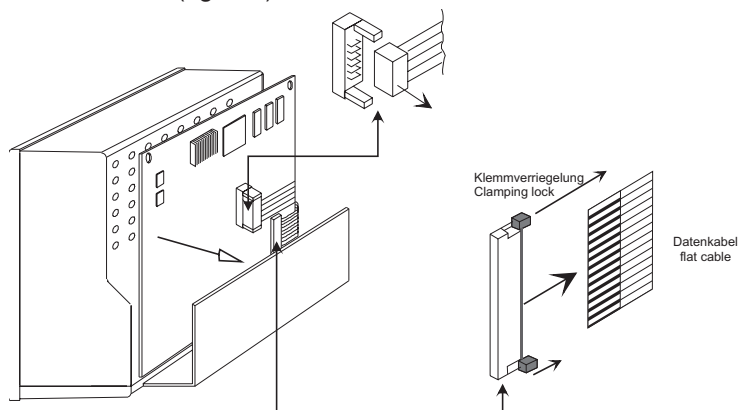

Fig. 8-4: Loosen the flat cables
6. Take out flat cable CN-2 after carefully loosening the locker. Take out flat cable CN-1 as well. (fig. 8-4)